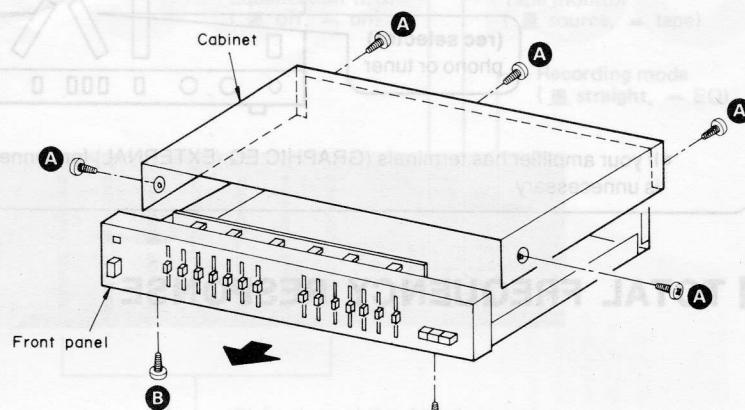

Fig. 1
1. Remove the 2 screws on the side of the cabinet, and 3 screws on the back. [Fig. 1: A]
3. Remove the 2 screws which connect the chassis and the front panel. [Fig. 1: B]
5. Remove the front panel in the direction of the arrow [Fig. 1].